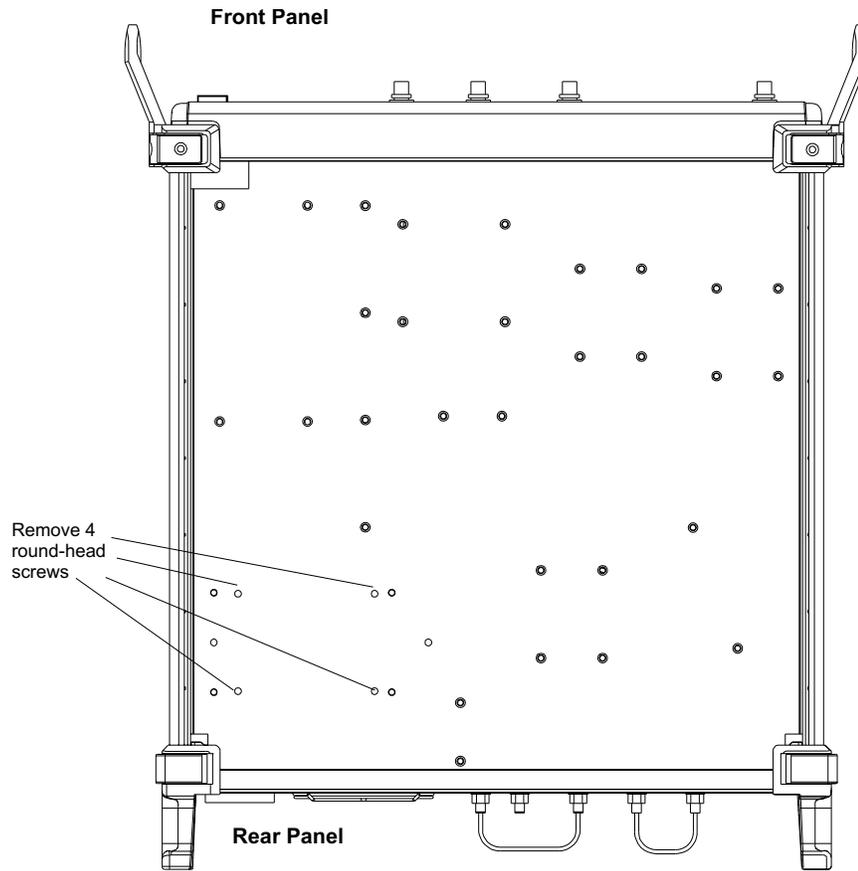

Figure 5-7. *A6 Power Supply Removal (Bottom View)*
- Step 4.** Grasp the the power supply to hold it in place while removing the four screws from the underside (Figure 5-7).